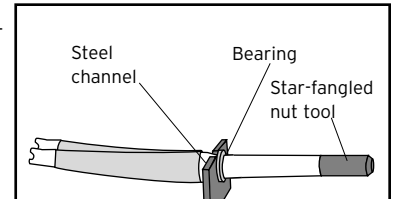

Fig. 27
3. Carefully position the steerer in the steel channel so that the steerer rests on the channel with the bearing on the side nearest the star-fangled tool (Fig. 27). Hold the fork so it cannot fall.